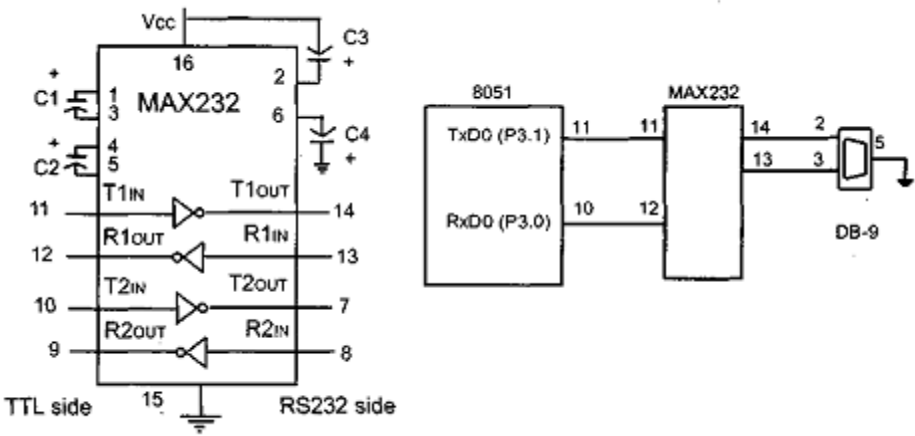

Figure 4.7. (a) Inside MAX232 and (b) its Connection to the 8051 (Null Modem)
4. The MAX232 has two sets of line drivers for transferring and receiving data, as shown in Figure 4.7. The line drivers used for TxD are called T1 and T2, while the line drivers for RxD are designated as R1 and R2. In many applications only one of each is used. For example, T1 and R1 are used together for TxD and RxD of the 8051, and the second set is left unused. Notice in MAX232 that the T1 line driver has a designation of T1in and T1out on pin numbers 11 and 14, respectively.